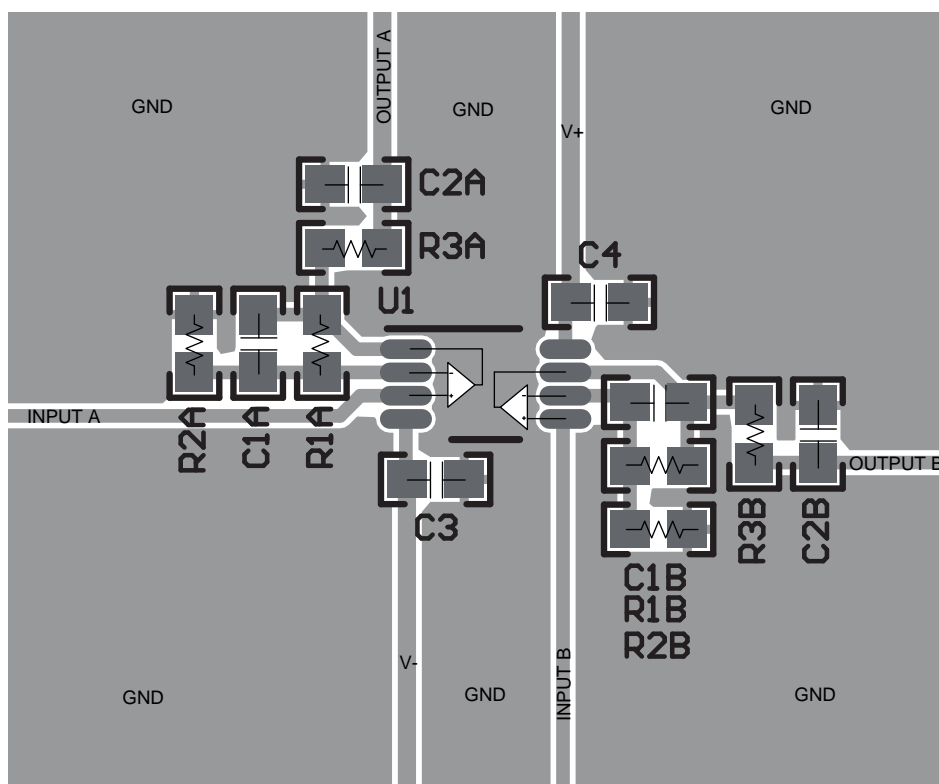

Figure 30. Layout Example
- Place the external components as close to the device as possible. As illustrated in Figure 30, keeping RF and RG close to the inverting input minimizes parasitic capacitance on the inverting input.